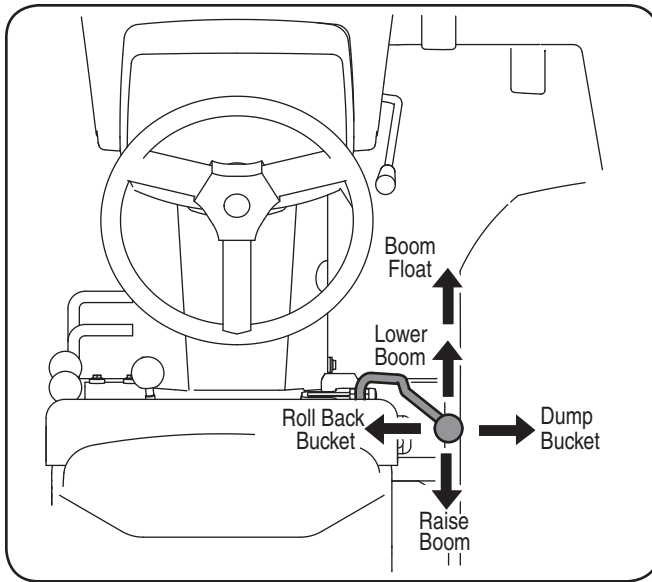

Figure 8
- By SLIGHTLY moving the implement control lever in the various directions, check that all control lever positions correctly operate the loader movements as indicated in Figure 8.